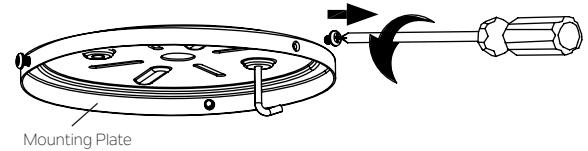

Fig. 10
Step 1. Remove one of the three screws from the mounting plate and keep for later use. Loosen the other two (do not remove). (Fig.10)